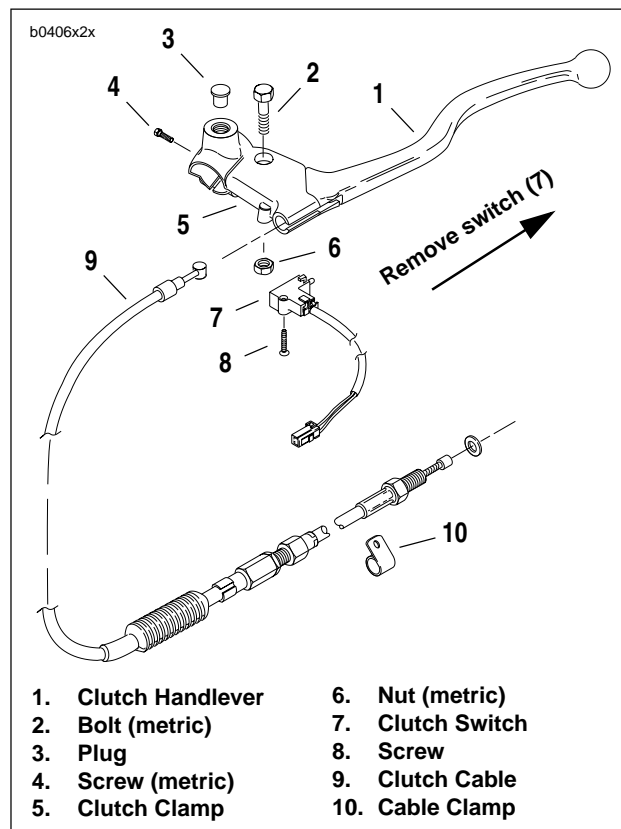

Figure 2-88. Clutch Hand Control
1. See Figure 2-88. Detach clutch switch (7).
- a. Remove screw (8).
- See Figure 2-88. Attach clutch clamp (5) as follows.
- Place clamp next to switchgear housing. Fasten to handlebar with screw (4) (metric). Tighten to 30-35 in-lbs (3-4 Nm).
- Apply small amount of LOCTITE ANTI-SEIZE LUBRICANT to bolt (2). Attach handlebar with bolt (2) (metric) and nut (6) (metric).
- Attach clutch switch (7) with screw (8).